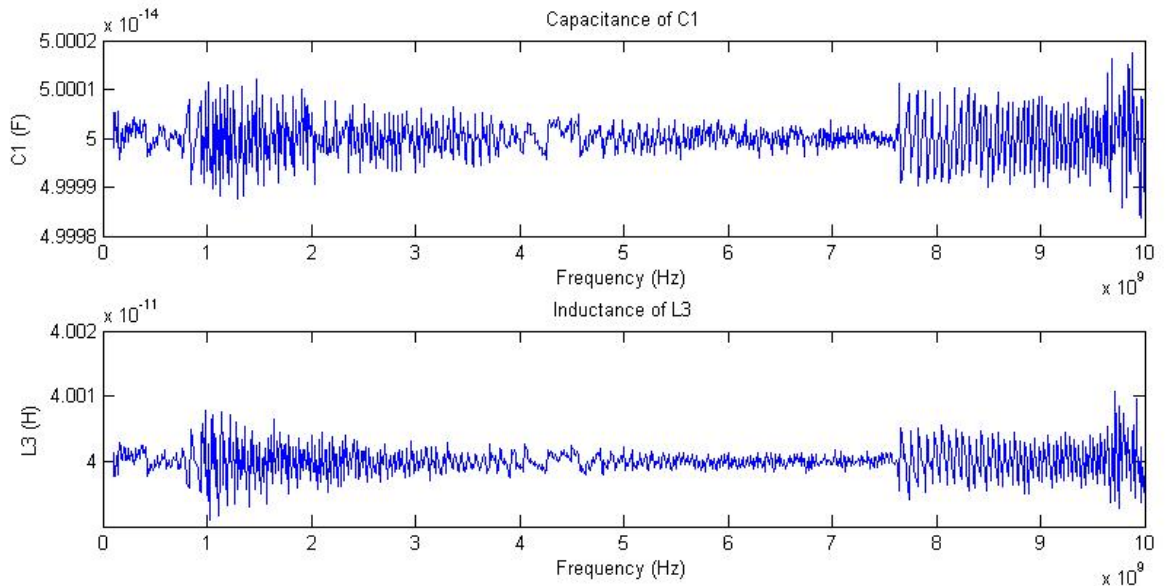

Figure 8: Matlab graphs of pi model component values.
1. Open the MWO project (an .emp project file and a .vin window-layout file) and the Matlab script (.m file). Make sure you set the paths correctly so that you can write files from MWO and then read them into Matlab. Fig. 7 and Fig. 8 illustrate the example for the pi model circuit (C-L-C). The schematic contains two 0.05 pF capacitors and a single 0.04 nH inductor. When you hit the lightning bolt icon in MWO, all the graphs update and an .s2p file gets written which contains the S-parameters of this circuit.
2. In Matlab, run the script. The script reads the .s2p file, converts the S-parameters to Y-parameters and then extracts the pi model's component values. Fig. 8 shows that Matlab deduces from the Y-parameter data that the capacitors are 0.05 pF and the inductor is 0.04 nH.